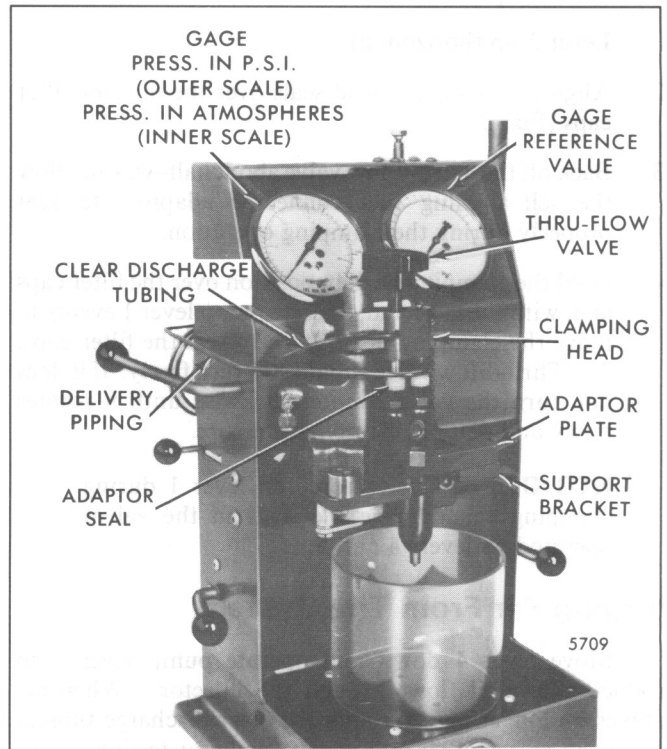
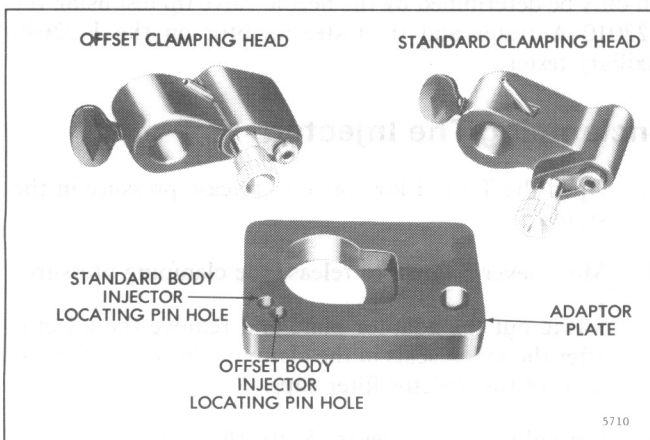

Fig. 2 – Injector Installed in Tester J 23010-A with Clamping Head
Fig. 1 – Injector Tester J 23010-A Clamping Heads
1. Select the proper clamping head (Fig. 1). Position it on the clamping post and tighten the thumb screw into the lower detent position (Fig. 2).
5. Mount the injector through the large hole and insert the injector pin in the proper locating pin hole (Fig. 1).
2. Align the clamping head seals over the injector filter caps (Fig. 2).